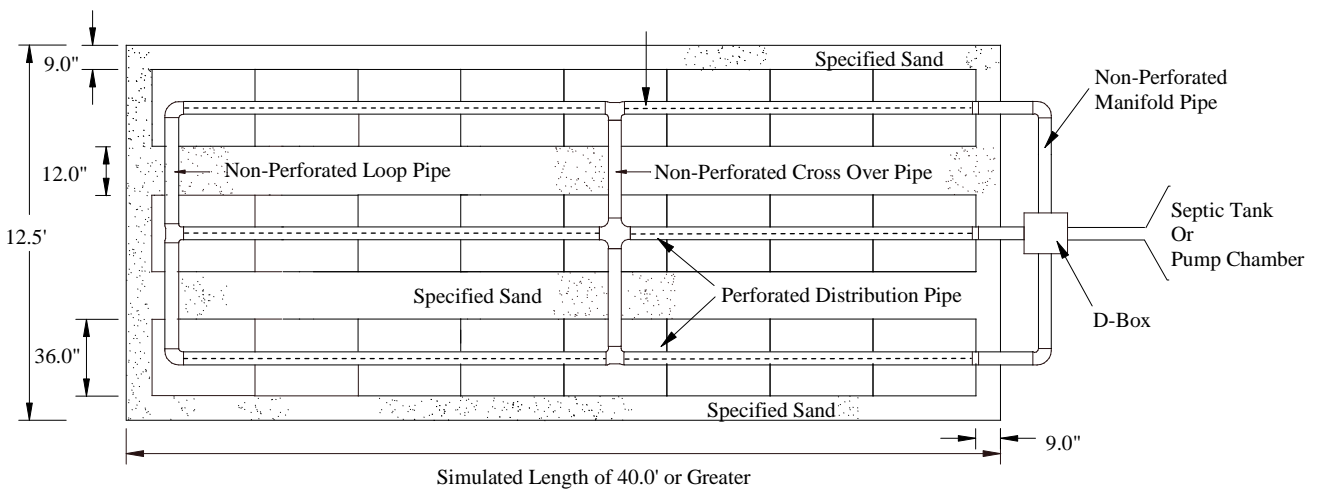

FIGURE 9
12. Center 4" perforated distribution pipe (Refer to Section 1.11 in this manual for piping requirements) or equivalent lengthwise over modules with orifices at 5:00 and 7:00. Connect mid points on level bed systems with non-perforated pipe on module rows over 40' long as shown in Figure 9.